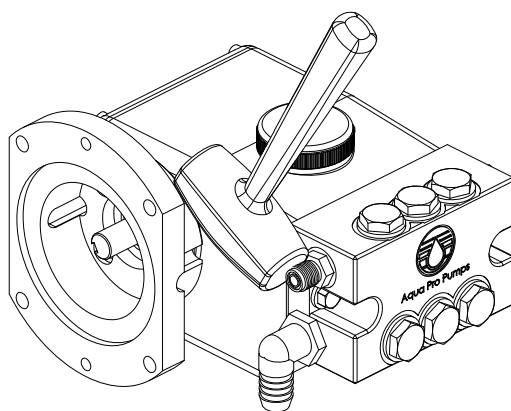

Fig. 2: Manifold Assembly Removal
Remove the two manifold bolts (58) with a 9/16" socket wrench for the 708-5, with a 1/2" socket wrench for the 708-3, or the 4 socket head bolts with the 3/16" Allen wrench for the 708-1. Loosen the manifold assembly by lightly tapping off the manifold using the dead blow hammer, as seen in Fig. 2. Tap the manifold from both sides to apply even force to the manifold. Failing to do so can result in damage to the Ceramic Plungers. Set the manifold assembly aside in a clean work area. If the manifold assembly locating dowel pins (53) fall out, reinsert them into the manifold alignment pin holes.